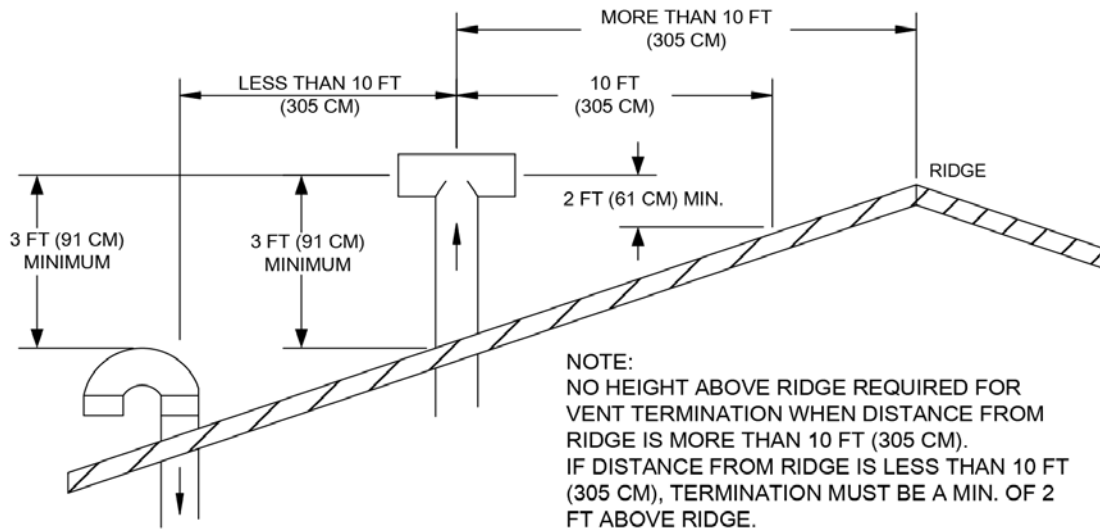

Figure 2: Combustion Air Roof Termination Locations
- Combustion air inlet must be 3 ft. below any vent outlet within 10 ft. See Figure 2.
- Combustion air inlet must also face away from the vent outlet. See Figure 2.